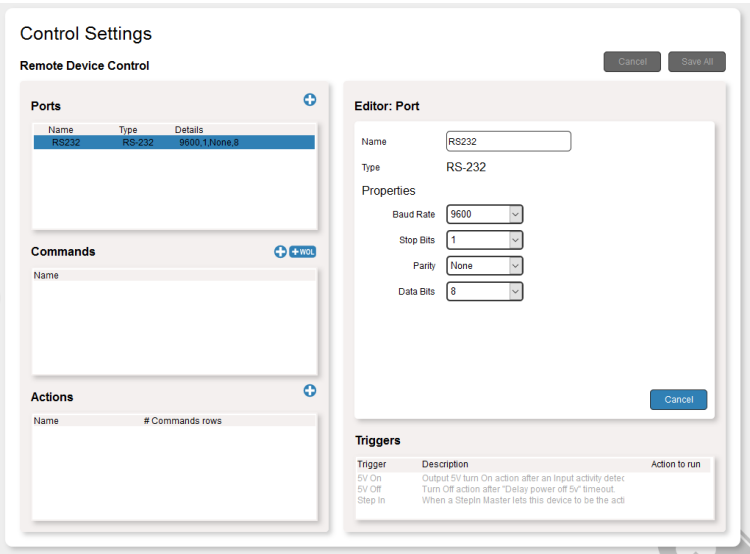

Figure 17: Configuring an RS-232 Port
- For RS-232 select baud rate, stop bits, parity and data bits (Figure 17).